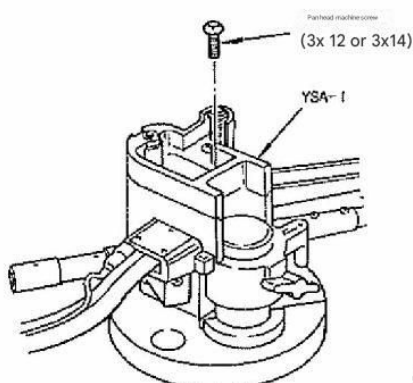

Fig. 14
- ⑤ Remove one screw, number 14. This screw will not be used. (Fig. 14)